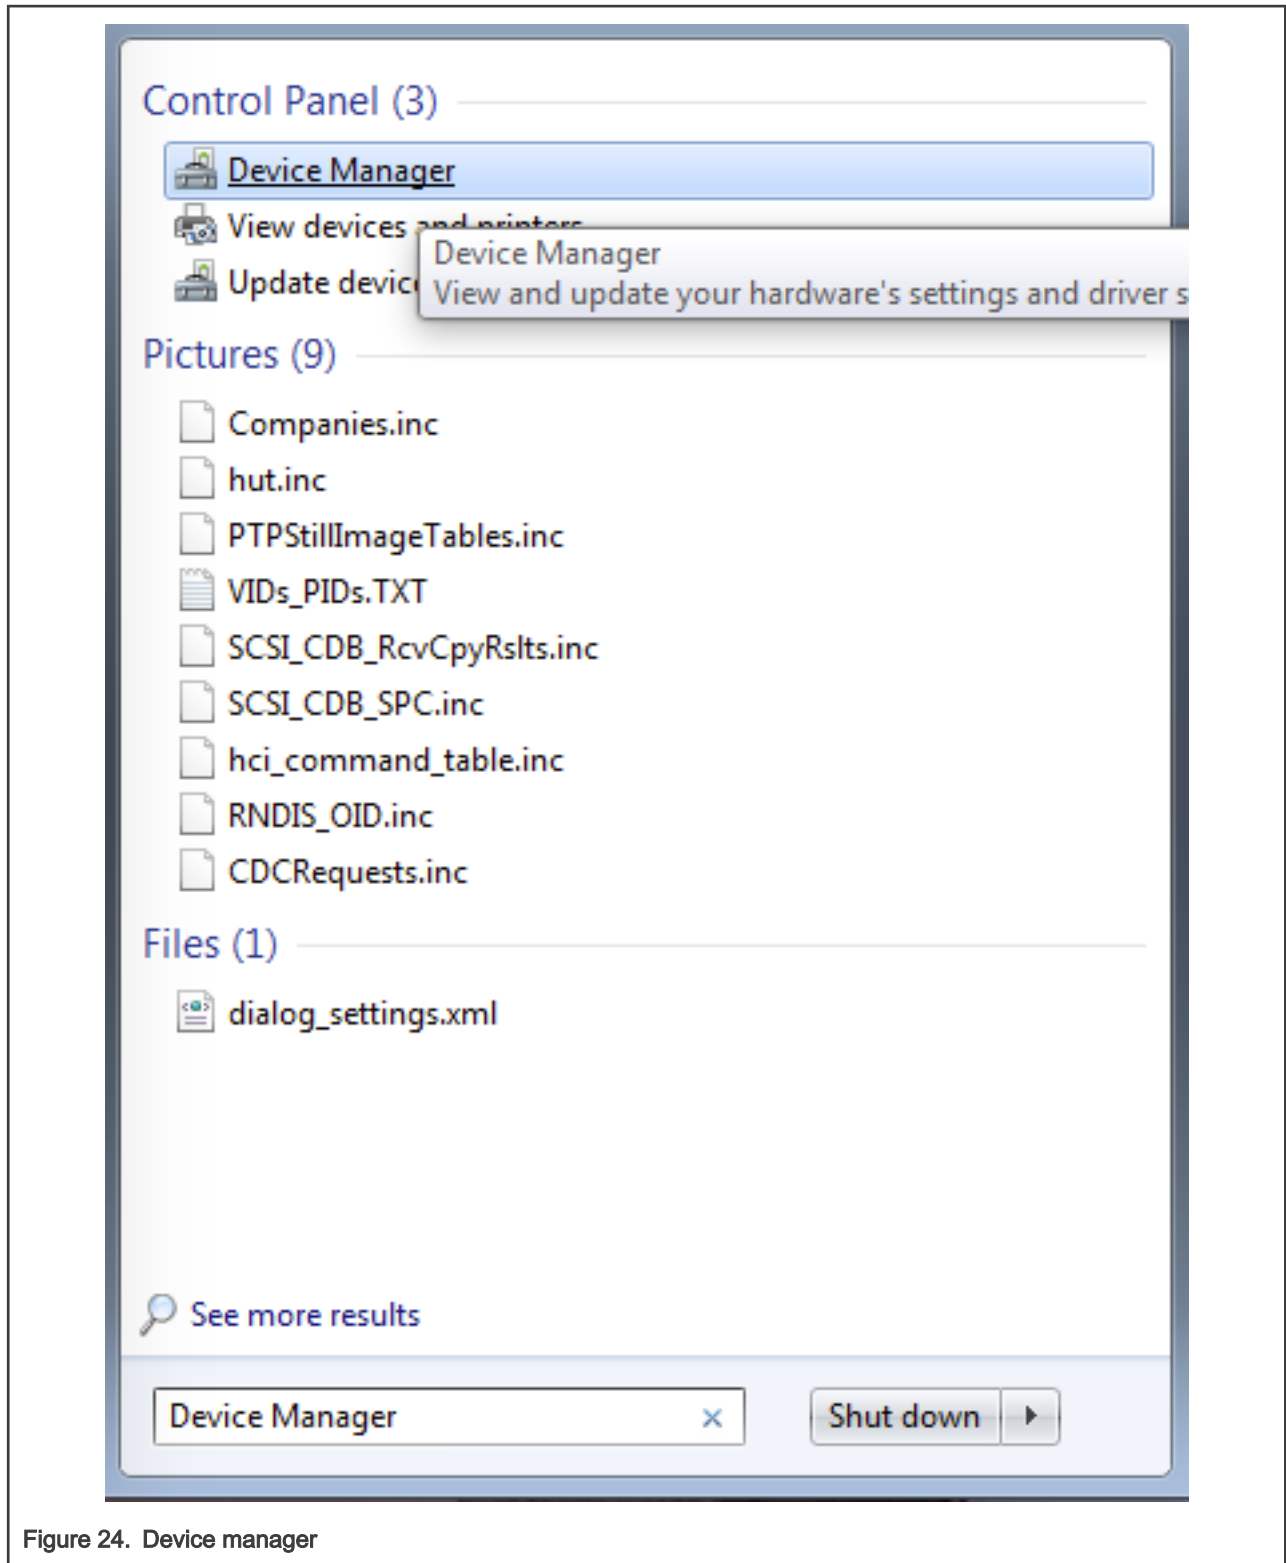

Figure 24. Device manager
1. To determine the COM port, open the Windows operating system Device Manager. This can be achieved by going to the Windows operating system Start menu and typing **Device Manager** in the search bar, as shown in Figure 24.